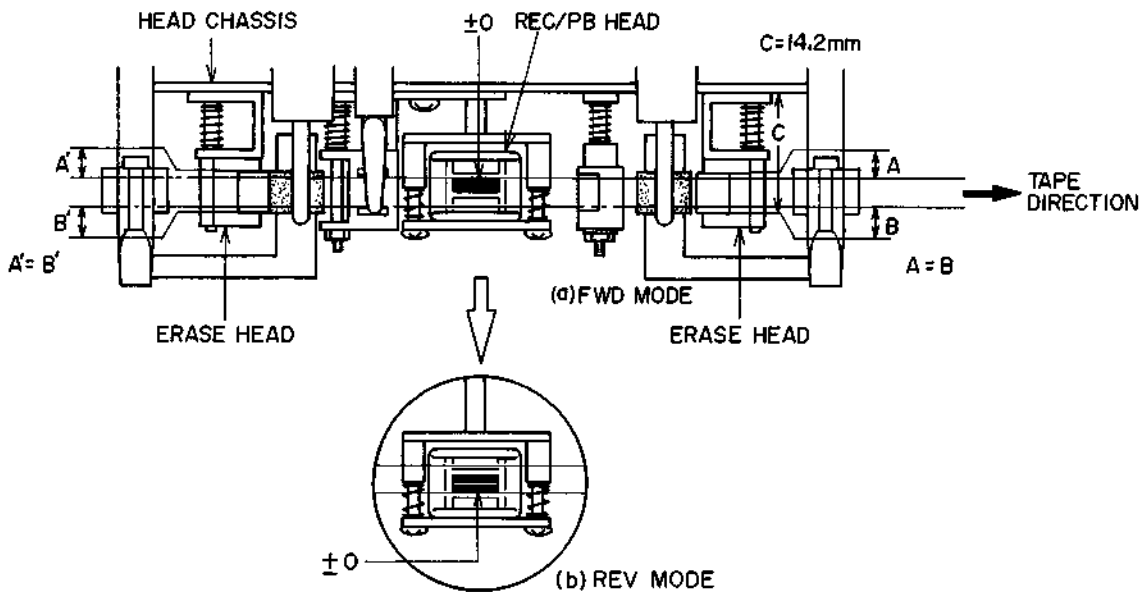

Fig. 23
Adjust by turning the adjustment nut until the height, taken from the surface of the Head Chassis to the lower tip of the Erase Head Core (Fig. 23 C) is 14.2 mm.
- 2) The adjustment to Tape Guides (A) and (B) are carried out with the Erase Head at the standard height. Put into the FWD mode and adjust Tape Guide (A). Make the width of the sections (A' and B' in Fig. 23) protruding from both ends of the tape of the left side Erase Head the same. Next in the REV mode adjust Tape Guide (B) until A and B in Fig. 25 are the same. Finally, in either FWD or REV modes. Check that the tape is running smoothly without catching on the tape guides.